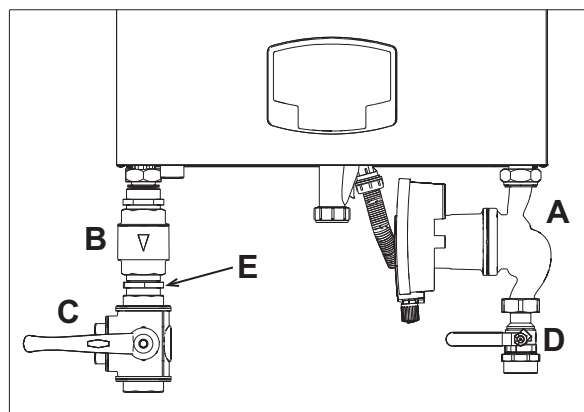

fig. 36- Boiler with installed kits
code **042070X0** - HIGH EFFICIENCY CIRCULATING PUMP KIT- 7m. (A - fig. 36)
code **042071X0** - HIGH EFFICIENCY CIRCULATING PUMP KIT- 10m. (A - fig. 36)
- 1 **NON-RETURN VALVE - Female 1"1/2** (B - fig. 36)
- 2 **3-Way FAUCET - Female 1"1/2** (C - fig. 36)
- 3 **FAUCET Male/Female 1"1/2** (D - fig. 36)
- 4 **CONNECTION NIPPLE 1"1/2** (E - fig. 36)